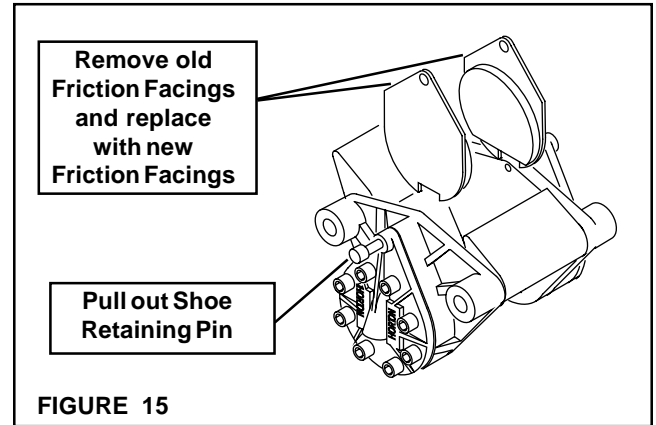

FIGURE 15
3. Pull out the Shoe Retaining Pin (See Figure 15).
4. Slide the old Friction Facings out of the Caliper (See Figure 15).
5. Slide two new Friction Facings into the space between the Caliper and Rotor until the cutout on the Friction Facings are against the lugs on the Caliper (See Figure 15).